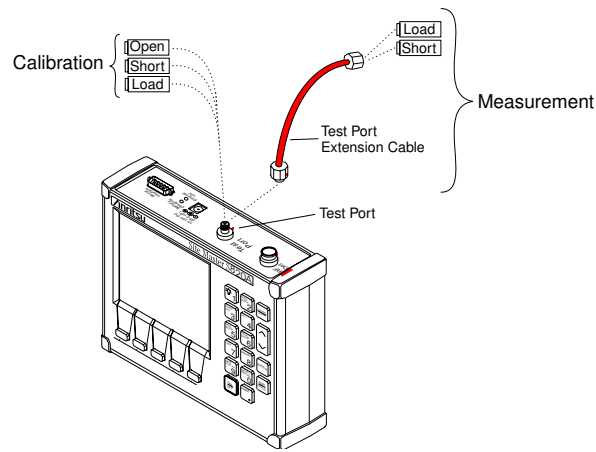

Figure 3-6. Calibration Measurement Setup
- Step 19.** Connect the load to the open end of the test port extension cable as shown in Figure 3-6.